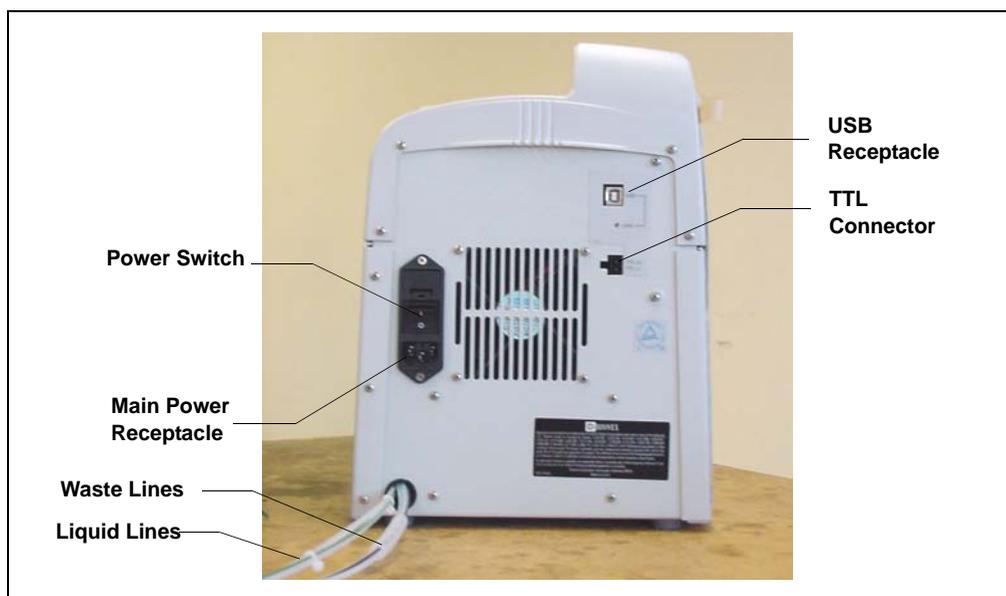

Figure B-2. ICS-90 Rear Panel
2. Connect the power cord (IEC 320 C13) from the main power receptacle on the rear panel (see Figure B-2) to a grounded power source.